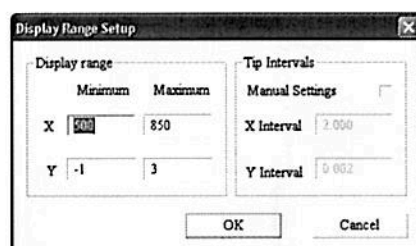

Fig. 4-12
4. Click **#** on the toolbar to set display parameters (Fig. 4-12).